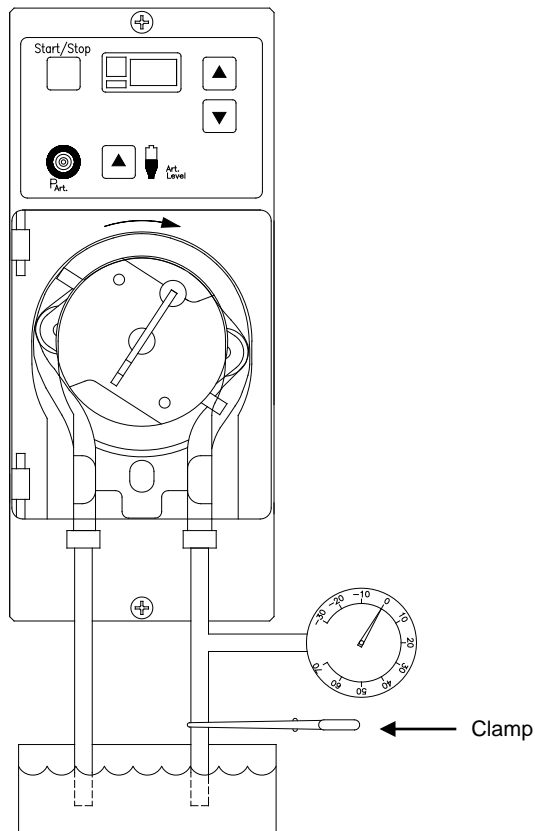

Figure 7. Blood Pump Rotor Occlusion Test
- Connect a pressure gauge to the bloodline in the pump (See Figure 7) and allow the rotor to pull up $37^{\circ}\text{C} \pm 1.5^{\circ}\text{C}$ water. Let this fluid flow past the pressure gauge long enough to clear out air.
- With the pump running at 600ml/min, clamp the outlet so that the pressure gauge is between the output of the pump and the clamp (See Figure 7). The peak pressure on the pressure gauge must be between 25 and 35psi. If the peak pressure is out of range, replace the blood pump rotor springs (part number 650174).